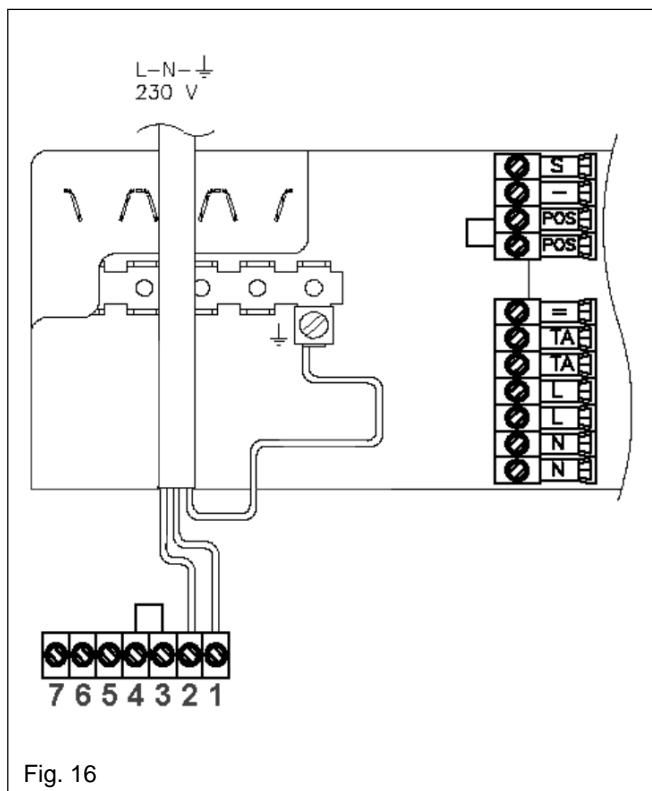

Fig. 16
4.7.3 CONNECTING THE MAINS (230V) INPUT (see fig. 16)
Remove the terminal block cover as described in 4.7.2. Pass the cable through the cable anchorage (see fig. 16). On the terminal block there are 7 terminals from Right to Left they are:
Connect the supply cable wires (LIVE and NEUTRAL) to their corresponding terminals on the appliance terminal block. Connect the EARTH wire to the EARTH block (see fig. 16) ensuring that it's left slightly longer than the others, this will prevent strain on the EARTH wire should the cable become taut.